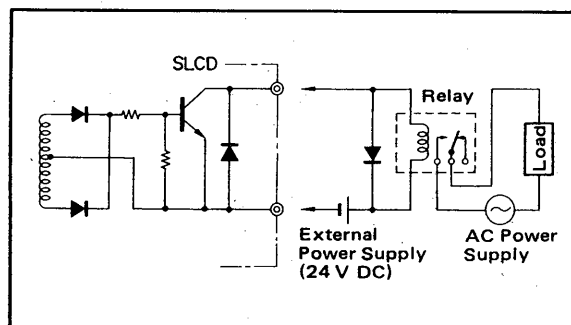

Figure 3-4. Connections for an External AC Power Supply.
- Note that transistor contacts cannot be connected directly to an AC load. Use a relay to switch an AC circuit. (See Figure 3-4.)